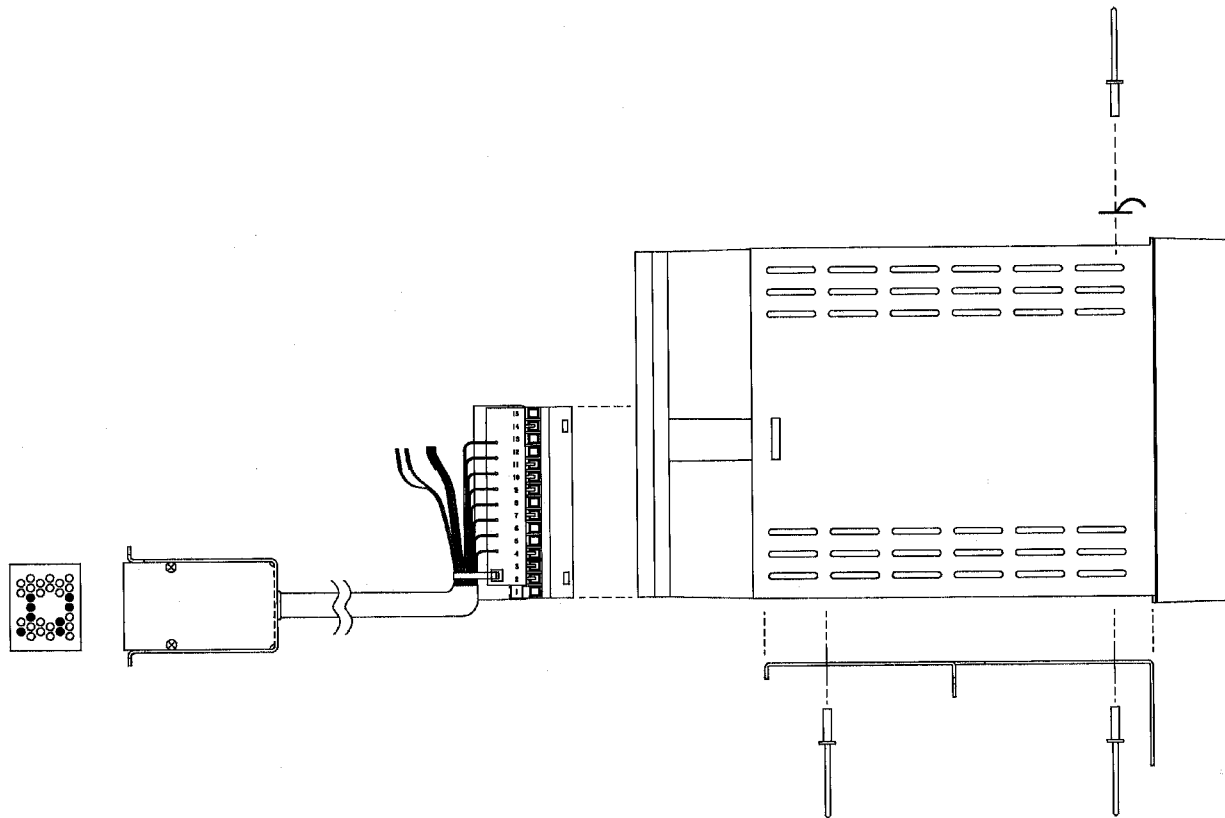

Figure 1. 2051R with Direct Connect Cable
2. Locate the large black bracket to the bottom of the MODCELL 2051R, aligning the four 1/8 inch holes. Orient the bracket as shown in Figure 1. Insert a pop rivet into each of the four holes and secure the bracket in place using the pop-rivet gun.
3. Stack the two top latch brackets one on top of the other so the 1/8 inch holes align. Align the brackets to the top front two 1/8 inch holes of the MODCELL 2051R instrument. Orient the bracket as shown in Figure 1. Secure this bracket in place with the two remaining 1/8 inch pop-rivets.